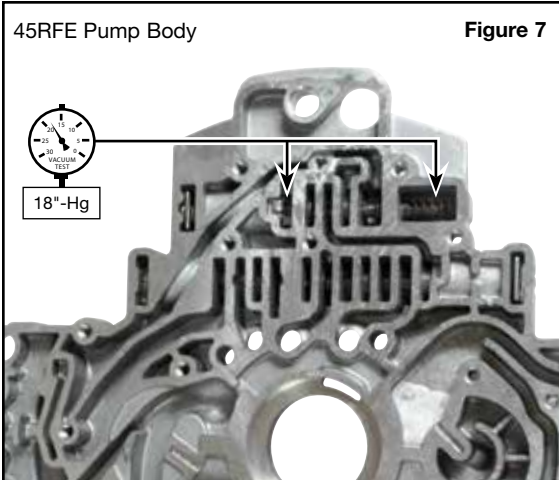

Figure 7
- Vacuum test the TCC regulator & accumulator valve in the recommended testing ports. Vacuum should hold a minimum of 18 in-Hg (**Figure 7**).